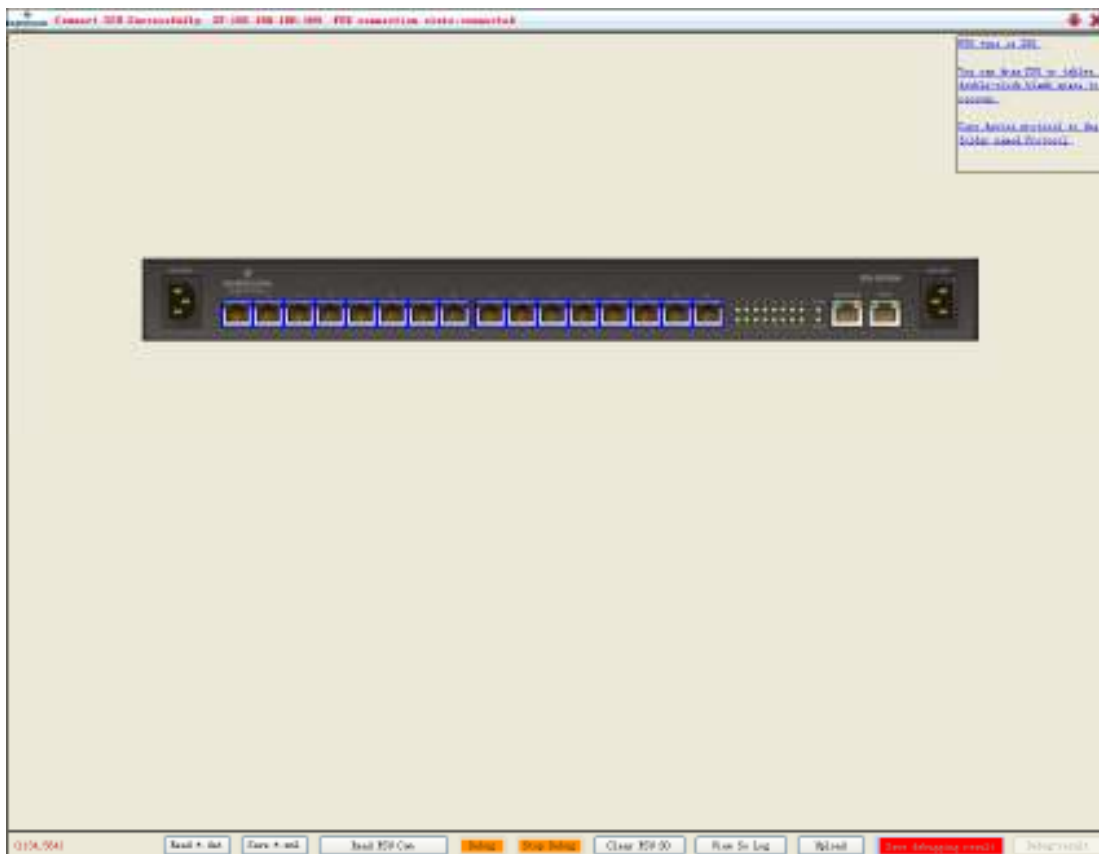
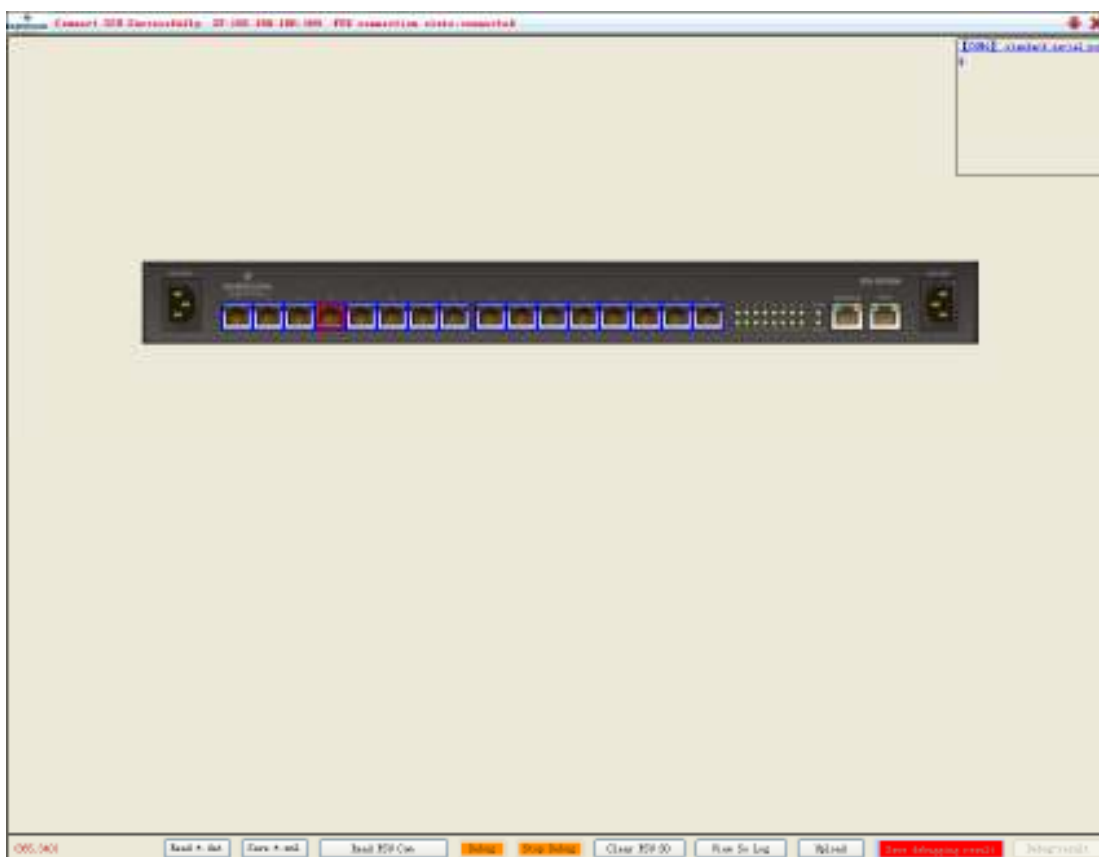
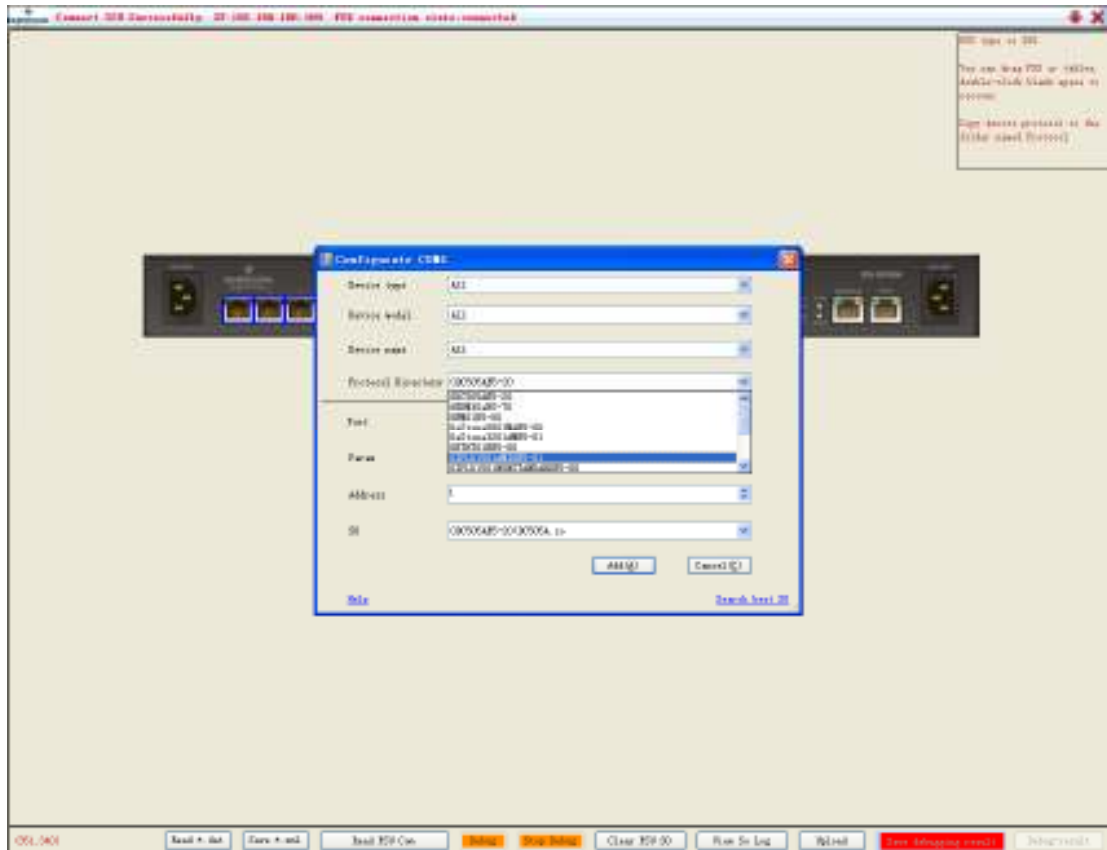
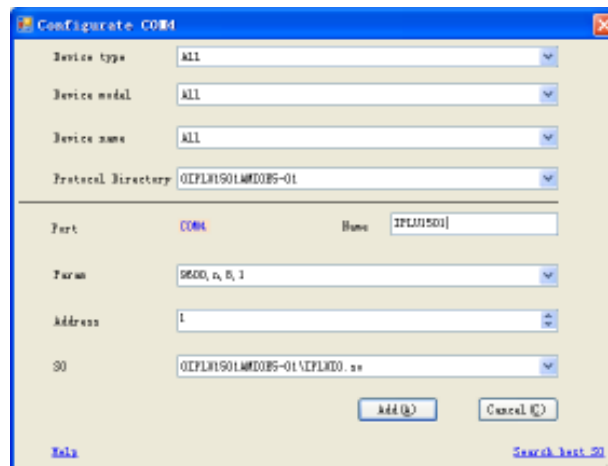

Figure 4-7 Primary window of BottomDebugTool software
Figure 4-8 Selecting serial port
Figure 4-9 Configuration window of intelligent device (IPLU1501)
Figure 4-10 Setting serial port parameters
1. After logging in the FSU, the primary window of the BottomDebugTool software appears, as shown in Figure 4-7.
2. In the primary window of the BottomDebugTool software shown in Figure 4-7, select the corresponding COM 4 of the connected intelligent device (take IPLU1501 for example), and the selected serial port will be highlighted, as shown in Figure 4-8.
3. After selecting the COM 4 shown in Figure 4-8, a configuration window will pop out, as shown in Figure 4-9.
4. In the intelligent device configuration window (see Figure 4-9), select the type, model, name of the intelligent device connected to the port, and input the device name, communication parameters and address, as shown in Figure 4-10.